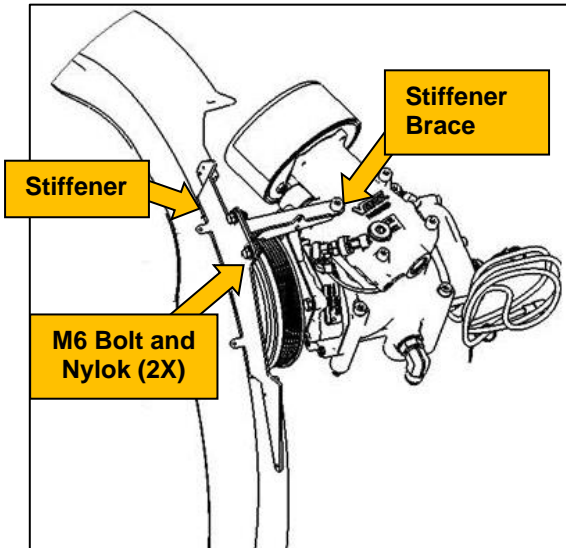

Figure 23 (Some components omitted for clarity)
- Install inlet valve per Figure 23. Do not torque bolts yet.
- Connect fan shroud brace to fan shroud stiffener per Figure 23.